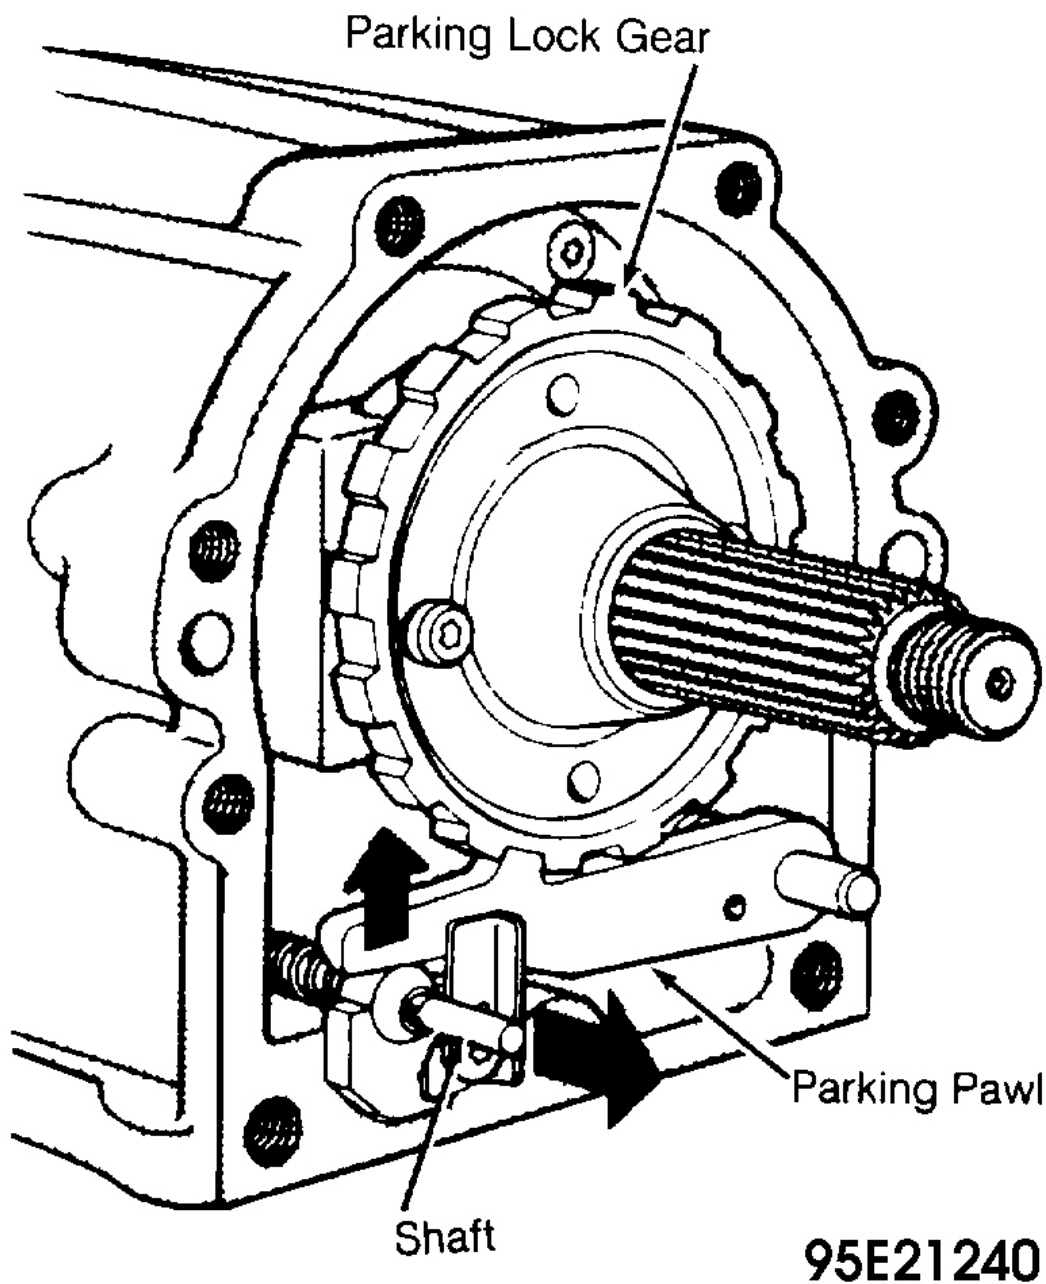

Fig. 5: Identifying Parking Lock Gear, Parking Pawl & Components
3. Hold output flange. Remove collar nut and output flange. Remove bolts, extension housing and gasket. Remove parking lock gear from output shaft. See Fig. 5. Remove parking pawl, spring and shaft.